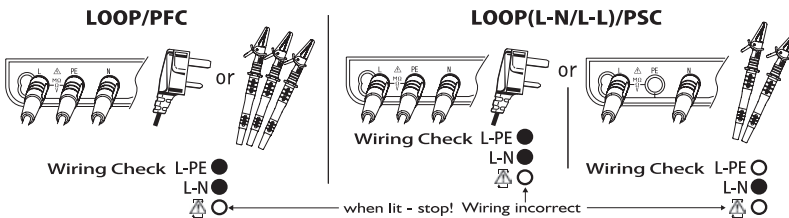

Fig. 29
- 2 Insert the Test Lead into the instrument. (Fig.29)
After the connection, ensure that the symbols for Wiring check on the LCD are in the status indicated in Fig.29 before pressing the test button.
If the status of the symbols for Wiring check differ from Fig.29 or  symbol is indicated on the LCD, DO NOT PROCEED AS THERE IS INCORRECT WIRING. The cause of the fault must be investigated and rectified.